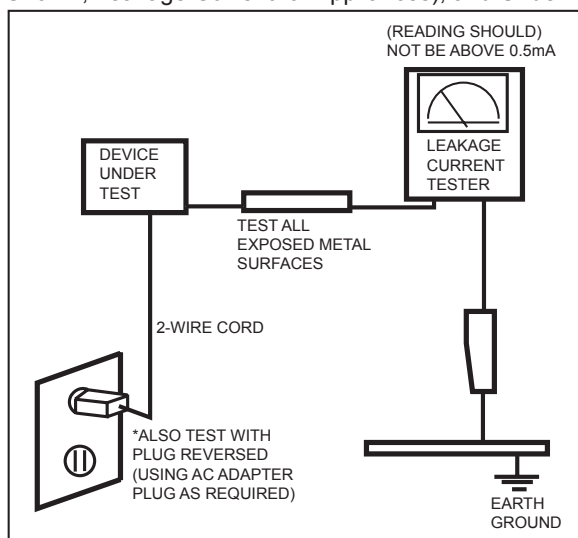

Figure 1-1. Leakage Current Test Circuit
3. Leakage Current Hot Check (Figure 1-1):